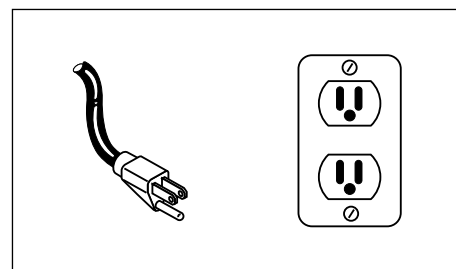

Figure 12 - Grounding method
1. This product is for use on a nominal 120 volt circuit and has a grounding plug that looks like the plug illustrated in *Figure 12*. Only connect the product to an outlet having the same configuration as the plug. Do not use an adapter with this product. In the event of an electrical short circuit, grounding reduces risk of electrical shock by providing an escape wire for electric current. This product is equipped with a cord having a grounding wire with an appropriate grounding plug. Plug must be plugged into an outlet that is properly installed and grounded in accordance with all local codes and ordinances.